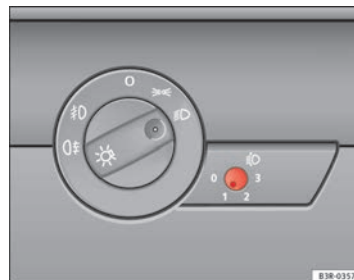

Fig. 88 Headlight range control
- Briefly press the knob  ⇒ page 119, fig. 88 to release it from its set position.